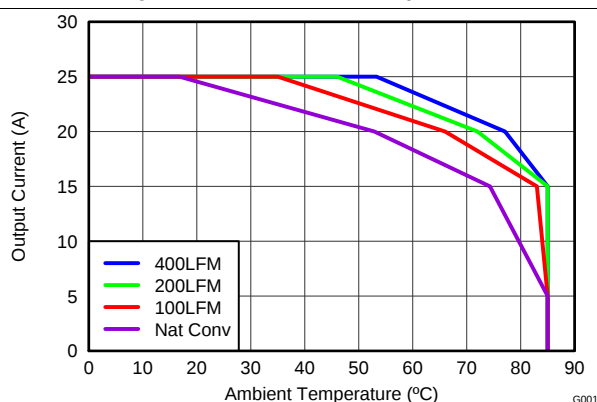
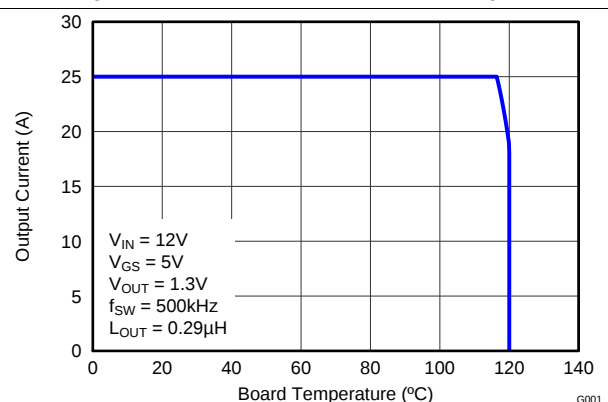

Figure 3. Safe Operating Area – PCB Horizontal Mount
Figure 4. Typical Safe Operating Area
$T_J = 125^{\circ}\text{C}$, unless stated otherwise. The Typical Power Block System Characteristic curves Figure 3 and Figure 4 are based on measurements made on a PCB design with dimensions of 4.0 inches (W) $\times$ 3.5 inches (L) $\times$ 0.062 inch (H) and 6 copper layers of 1 oz. copper thickness. See Application and Implementation for detailed explanation.
$T_J = 125^\circ\text{C}$, unless stated otherwise. The Typical Power Block System Characteristic curves Figure 3 and Figure 4 are based on measurements made on a PCB design with dimensions of 4.0 inches (W) $\times$ 3.5 inches (L) $\times$ 0.062 inch (H) and 6 copper layers of 1 oz. copper thickness. See Application and Implementation for detailed explanation.
The SOA curves in the CSD87588N data sheet provide guidance on the temperature boundaries within an operating system by incorporating the thermal resistance and system power loss. Figure 3 to Figure 4 outline the temperature and airflow conditions required for a given load current. The area under the curve dictates the safe operating area. All the curves are based on measurements made on a PCB design with dimensions of 4 inches (W) × 3.5 inches (L) × 0.062 inch (T) and 6 copper layers of 1 oz. copper thickness.